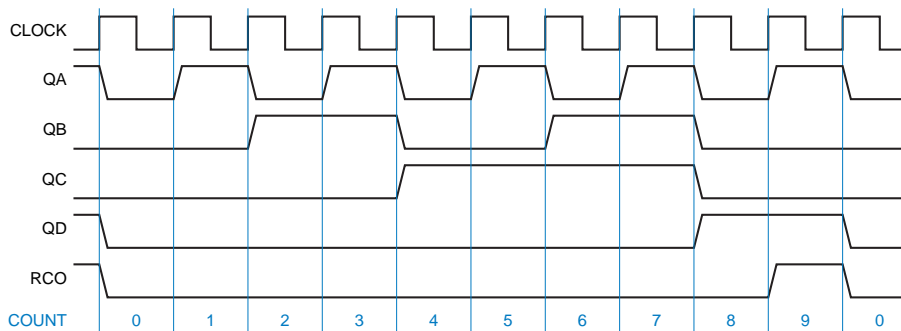

Figure 27: Clock and output waveforms for a free-running divide-by-10 counter.
- In Fig. 27, although QD and QC outputs have one-tenth of CLK frequency, they do not have a 50% duty cycle